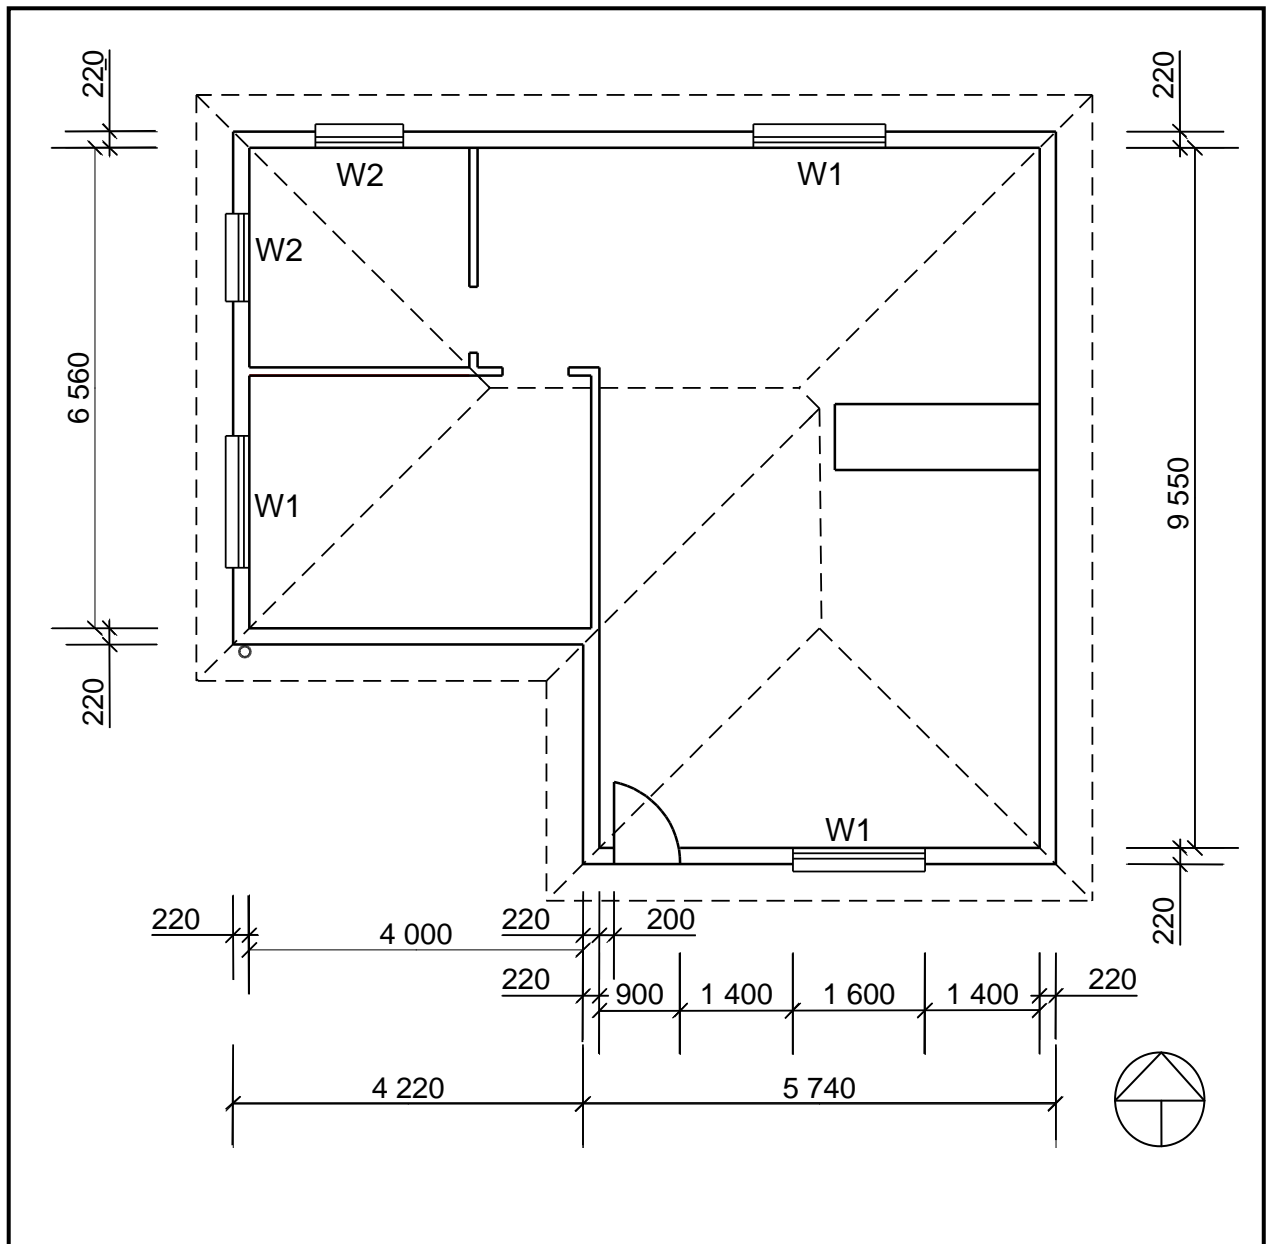

FIGURE 2.2
2.2 FIGURE 2.2 below shows an incomplete floor plan of a proposed dwelling.
Study FIGURE 2.2 and develop and draw, on ANSWER SHEET 2.2, to scale 1 : 50, the SOUTH ELEVATION of the building. Use the following specifications. (Use the assessment criteria on ANSWER SHEET 2.2 as a guideline for your drawing.)